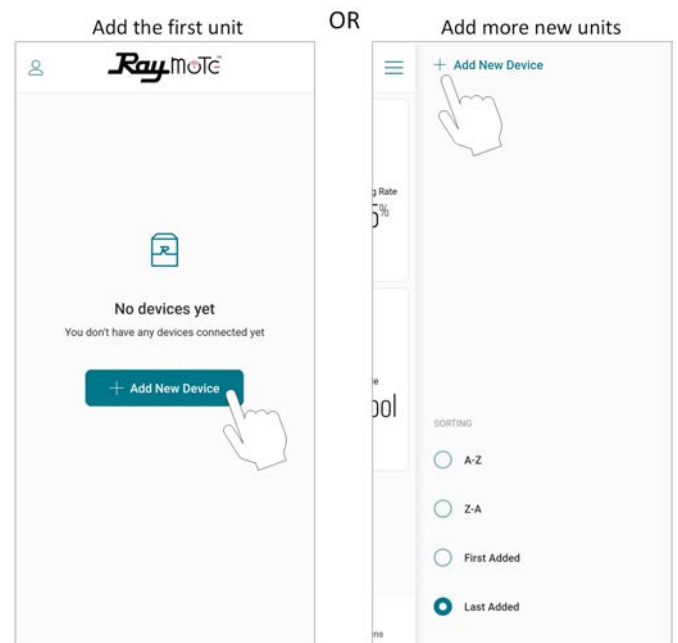

Figure 12. Add New Device
4. In the Raymote app, press "+ Add a new device" for the first device or press the menu button  located at the top right corner of the screen, then press "+ Add a new device". See **Figure 12**.